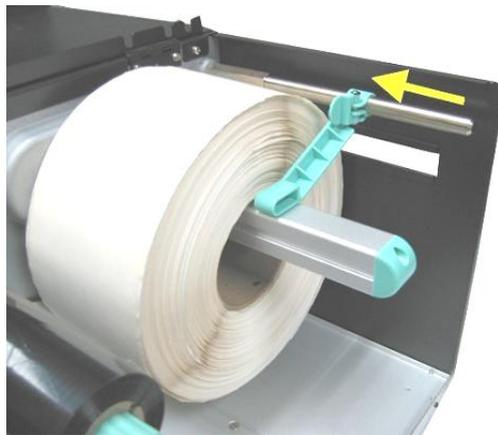

Fig. 5.2.1.g Setting the label supply guide to the right position
10. Lock the label supply guide (the small locking lever has to be "closed" by flipping this lever in the direction shown in figure 5.2.1.g by the yellow arrow).